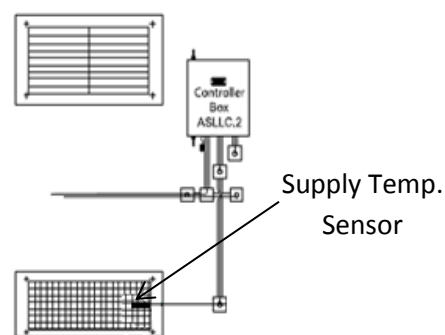
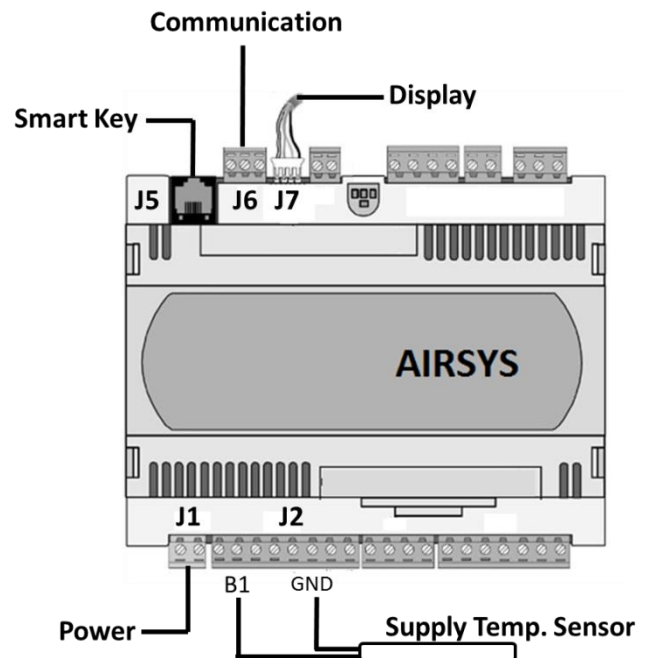

Figure 1: Supply Temp Sensor Location
Figure 3: Controller Board Reference
- Install supply air temperature sensors on B1 and GND on both controller boards. See Figure 1 for installation location and Figure 3 for wiring.
- Disconnect J1 and J6. See Figure 3 for connector locations.